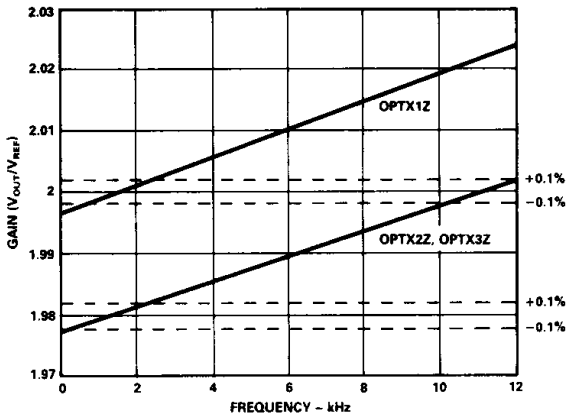

Figure 4. Gain (V_{OUT}/V_{REF}) vs. Frequency
The gain (input to output SIN, COS voltages) of the standard part is $\times 2 \pm 0.1\%$ (Option X1Z) over the frequency range dc to 2.6 kHz. As can be seen from Figure 4, the gain at 10 kHz is $\times 2.02 \pm 0.1\%$.
2.6 kHz. From Figure 4 can be seen that the gain for the autonull part is typically $\times 2 + 0.1\%$ at 10 kHz.